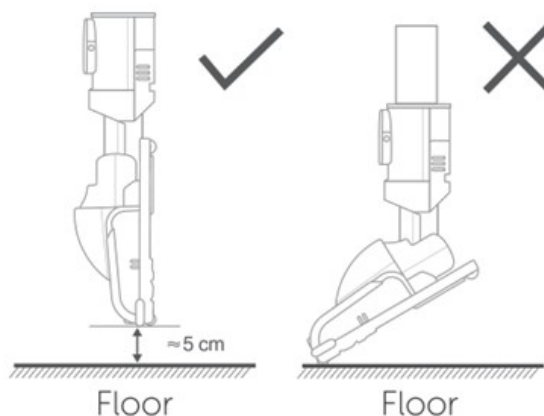

Fig. 6
1. Choose a suitable location for the wall bracket away from areas where it will get wet or knocked and close to a socket. Check that the charge cable will reach the mains socket (180cm distance max) and that there is sufficient space above and below the bracket (approx. 120-125cm below) for the fully assembled vacuum cleaner be inserted. No part of the vacuum cleaner should touch the floor after fitted into the bracket (fig 6).